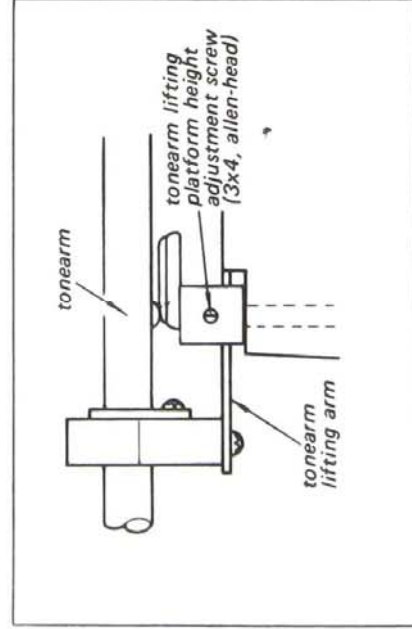

Fig. 3-2. Tonearm height adjustment (2)
2. If necessary, adjust the height of the tonearm lifting platform by loosening the its adjustment screw shown in Fig. 3-2.